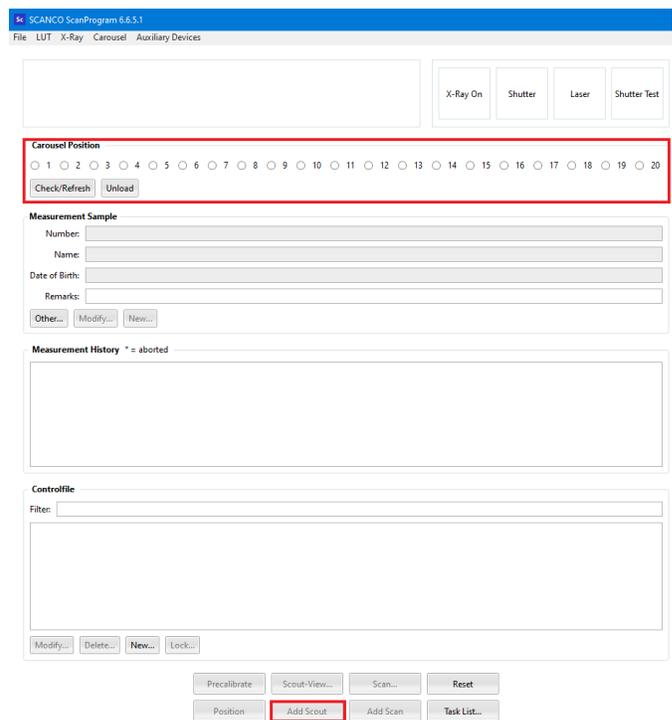

Figure 6: Screenshot of “SC” window depicting Sample #, Controlfile, etc.
3. Next, select your carousel position based on the tube placement (Figure 6). Be sure to know what’s in what tube and what tube is in what carousel position BEFORE continuing (refer to *Step 7 of Section 1.3*). For your first tube, select its carousel position. (ie. if you have a tube in position one, select the round “1” button at the top).